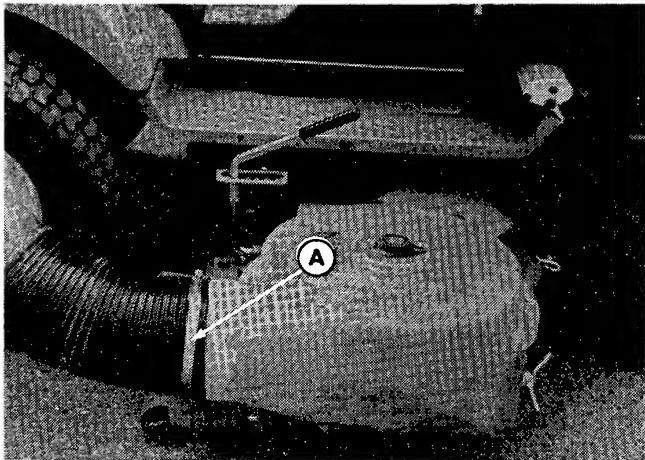

Figure 17.
1. Attach the hose to the housing with clamp (A, figure 17) and tighten with a screwdriver or wrench.